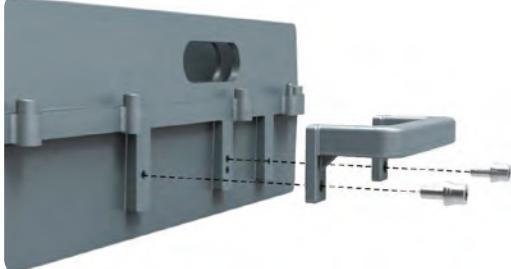

Fig. 19: Attaching handle
1. Attach the handle at the HPRU side, using 2 screws M6×14 and the T5 allen wrench (Fig. 19).